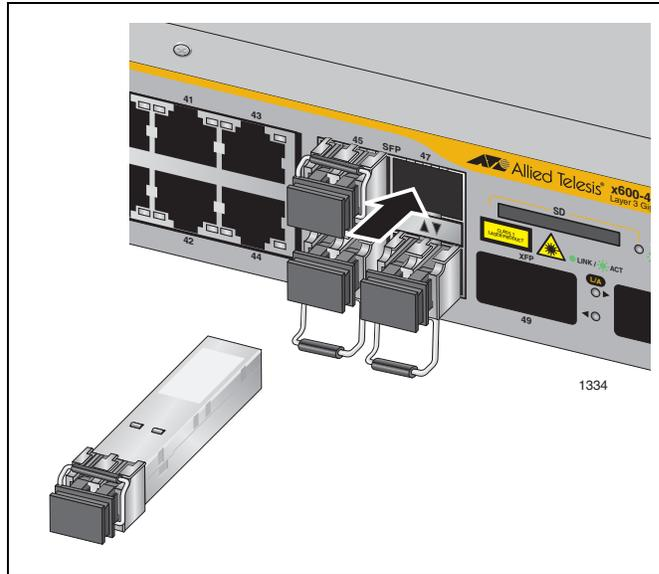

Figure 42. Positioning SFP Handles on the x600-48Ts and x600-48Ts/XP Switches
- For the x600-48Ts and x600-48Ts/XP switches, verify that handles on the top two SFP modules are in the up position and the bottom two SFP modules are in the down position as show in Figure 42.